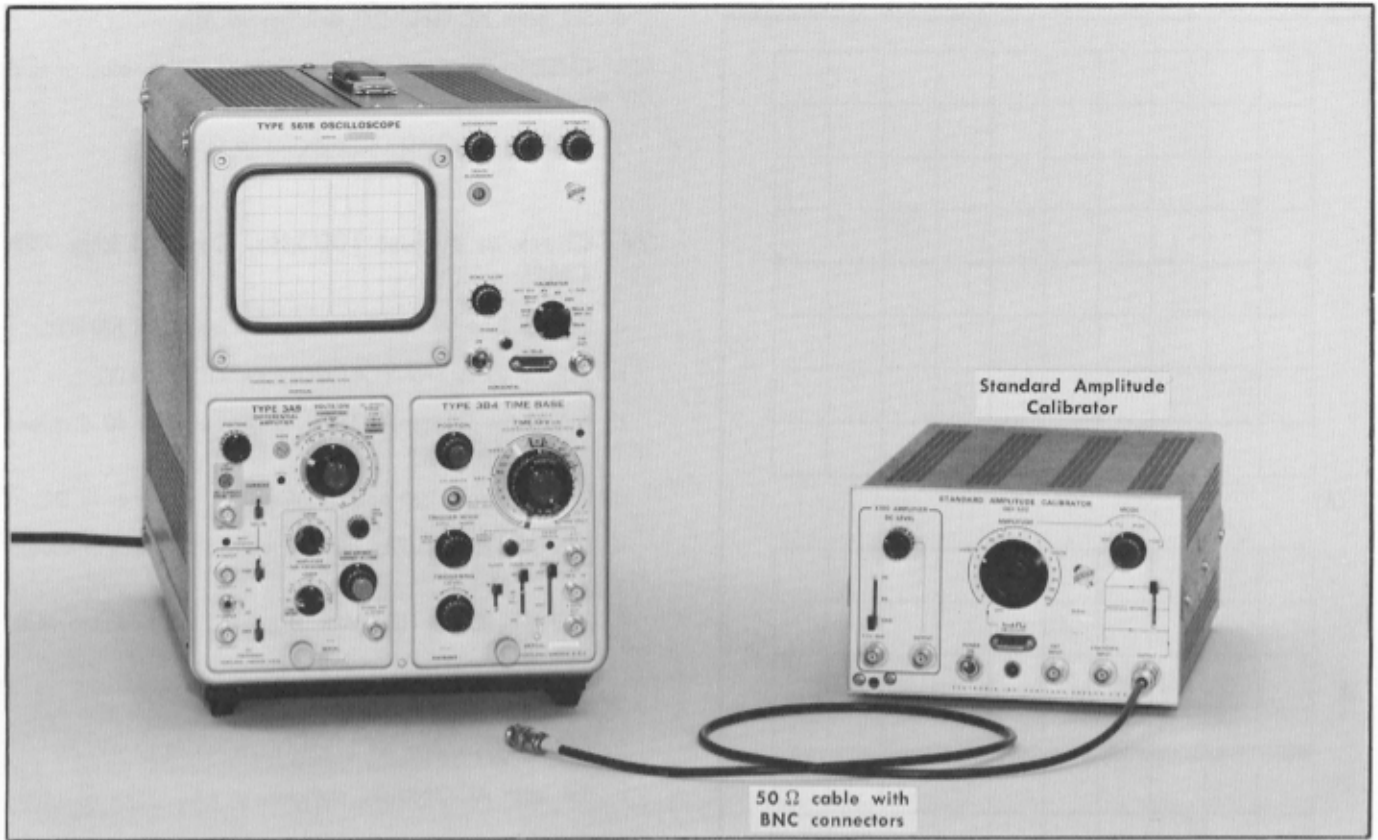

Fig. 5-31. Equipment required for step 25.
- a. Test equipment is shown in Fig. 5-31.